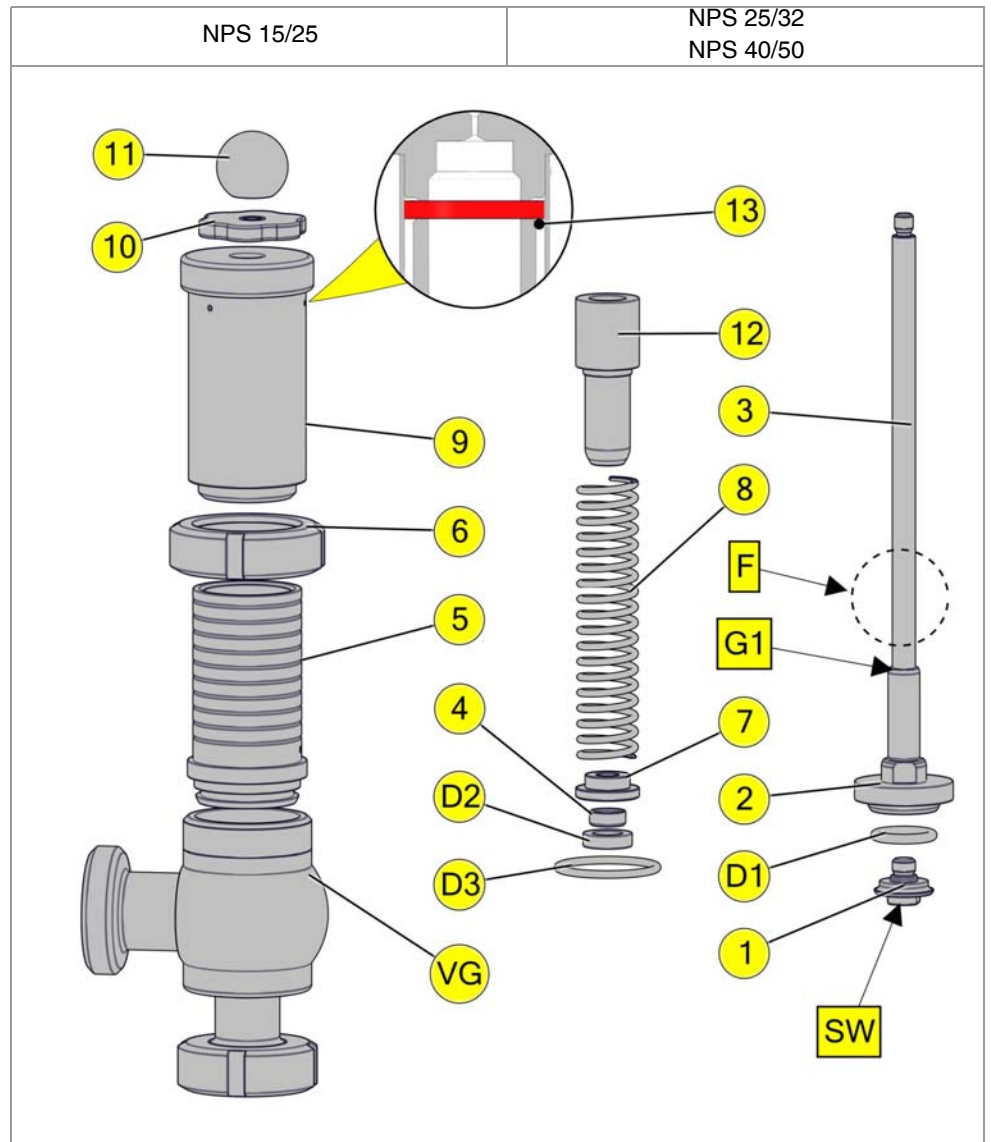

Fig. 1
- When pulling the spindle (3) from the spring housing (5), make sure that the thread of the spindle does not damage the bearing (4) or the lip seal (D2).
- The piston (2) is joined to the spindle with a high-strength screw locking device and must not be disassembled.
- Re-clamp the spindle at position (F) (see Fig. 1 /page 7) in the vice between the soft jaws.
- Unscrew the piston plate (1) above the width flat SW1 and remove the O-ring (D1).
- Unscrew the adjustment nut (9) from the spring housing (5). The pressure spring will relax.